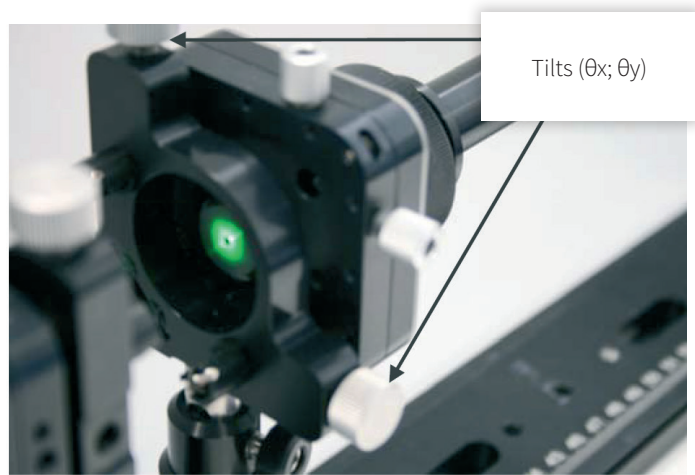

Figure 6. Alignment.
d. Firstly, using **Tilting (θ_x ; θ_y)** get symmetric diffraction pattern that is centered with the crosshair. Afterwards, use **Lateral shifts (X ; Y)** to correct the alignment, if needed (fig. 6).